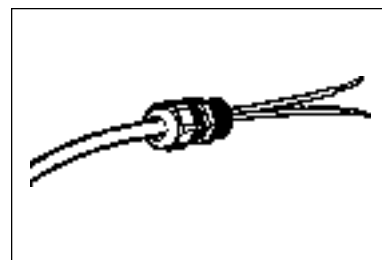

Figure 3
3. Slide the strain relief grip over the end of the power cord. The threaded end of the strain relief grip must face the power cord end. (Figure 3)